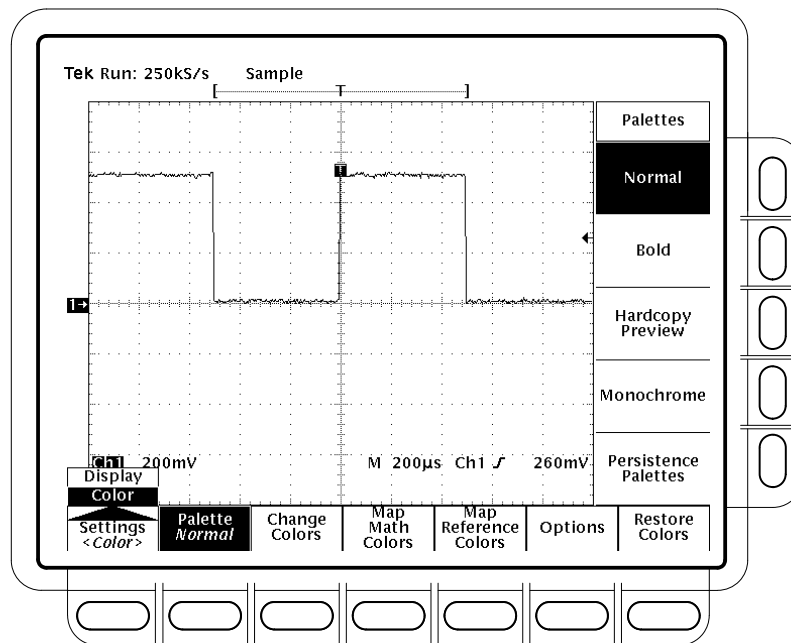

Figure 3–19: Display Menu — Setting
2. Press **Settings** in the main menu until you select **Color** from the pop-up menu. (See Figure 3–19.)
1. Select the main menu **Change Colors** item. (See Figure 3–20.)